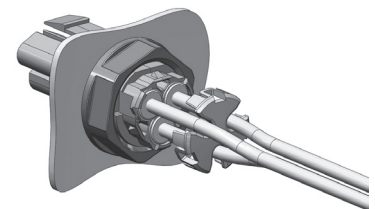
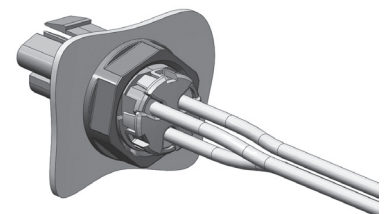

Figure 6
Figure 7
- b. If using optional wire sealing grommet, slide the individual grommet down each wire and into the connector until flush with the back of the connector. (See figure 6) Snap the grommet retainer on to the connector, covering the wire sealing grommets (See figure 7)